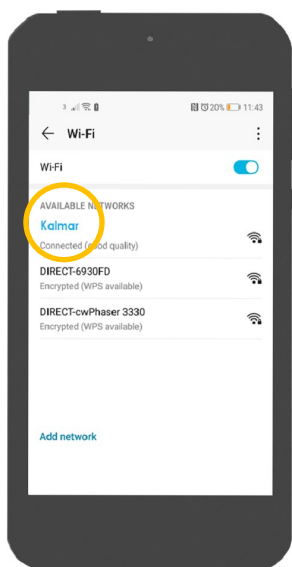

Fig 2.
4. Go to the wifi settings on your device and select the fireplace. (Fig 2) This will connect your device to the fire.